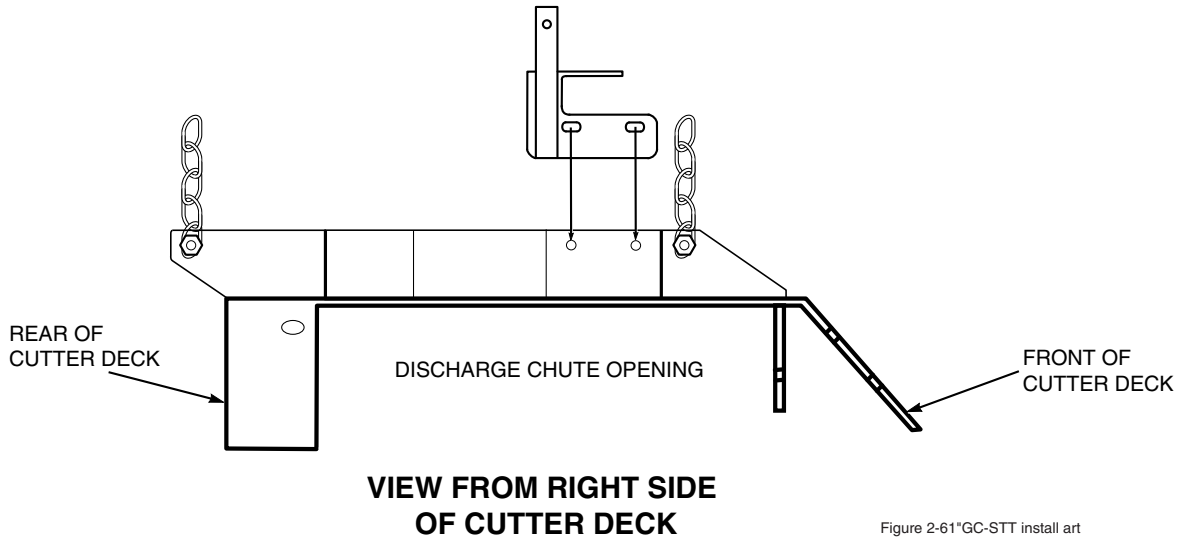

FIGURE 3-3
6. Install the blower mounting bracket to the deck using 1/2-13 x 1-1/2" hex head bolts (p/n 04001-71), 1/2" spring lockwashers (p/n 04030-06), and 1/2-13 elastic stop nuts (p/n 04021-07). See Figure 3-3, Page 4. Do not fully tighten the hardware at this time.